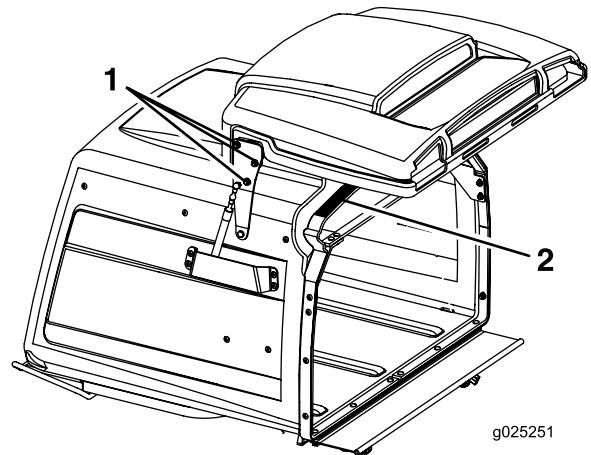

Figure 61
3. Loosen the 6 door hinge nuts (Figure 61).
4. Open the door and place a 3/8 inch (9.5 mm) rubber strip or 3/8 inch (9.5 mm) diameter hose between the hopper and the hopper door (Figure 61).